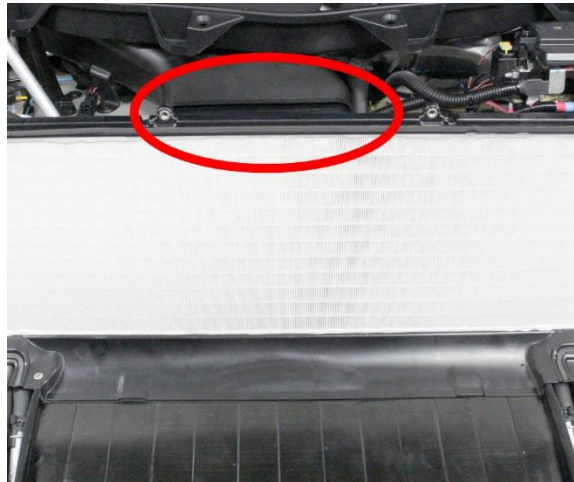

Figure 19. Releasing the filter housing
- I. Gently release the filter housing from the duct (Figure 19).